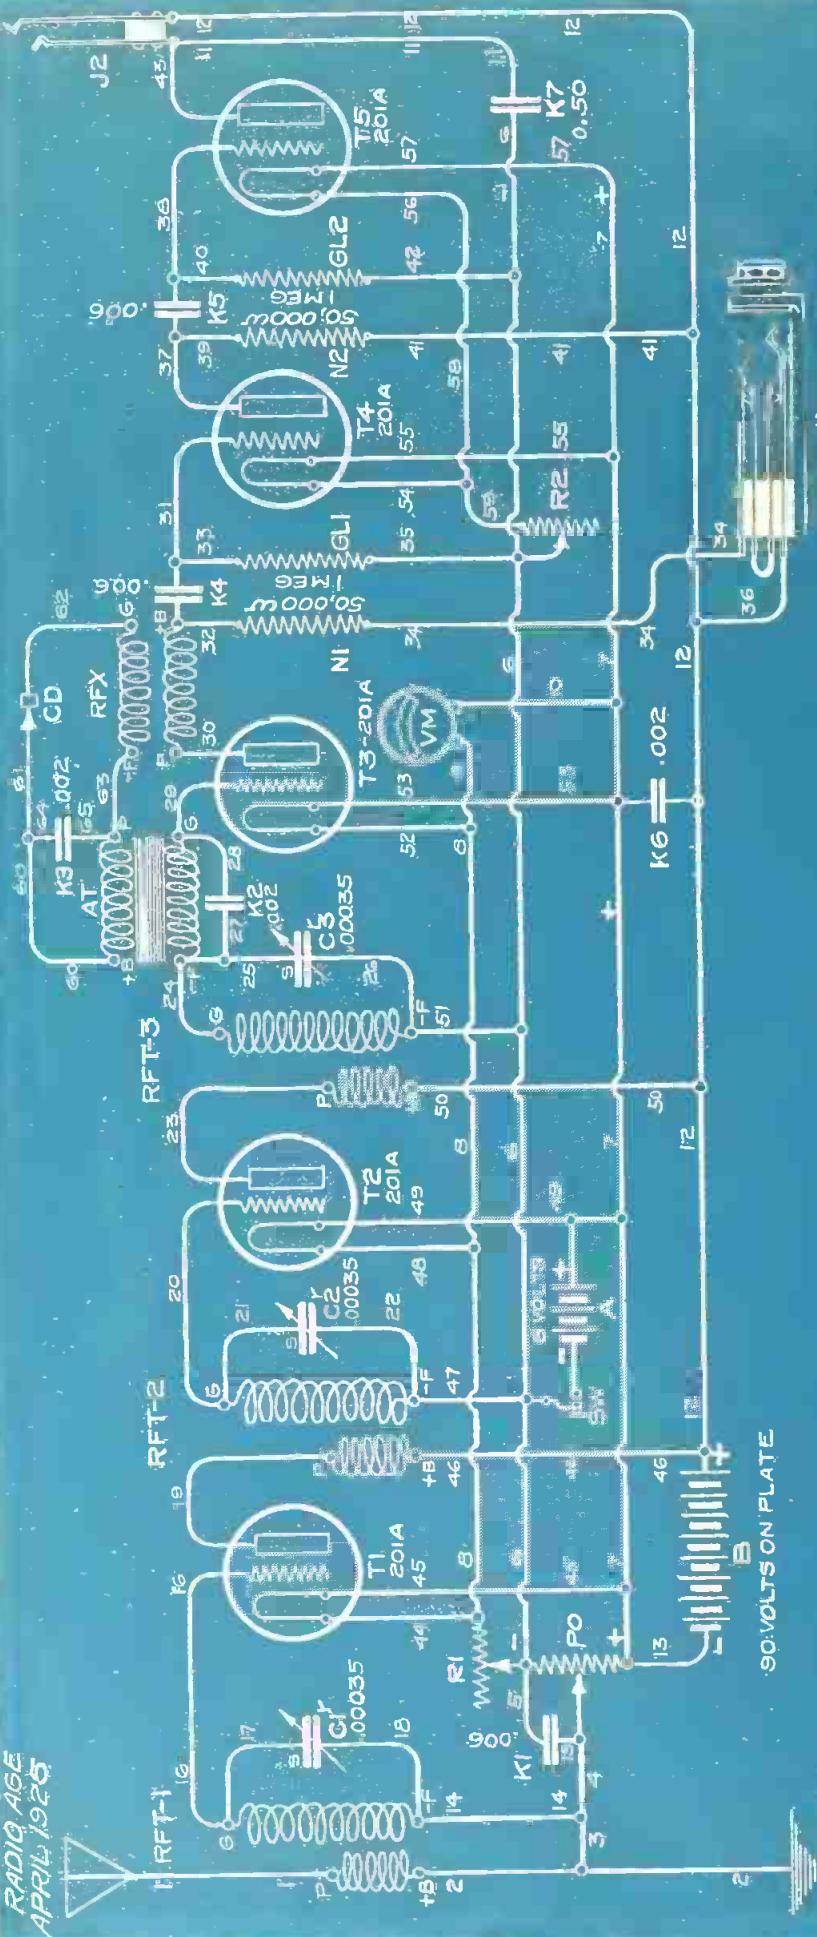
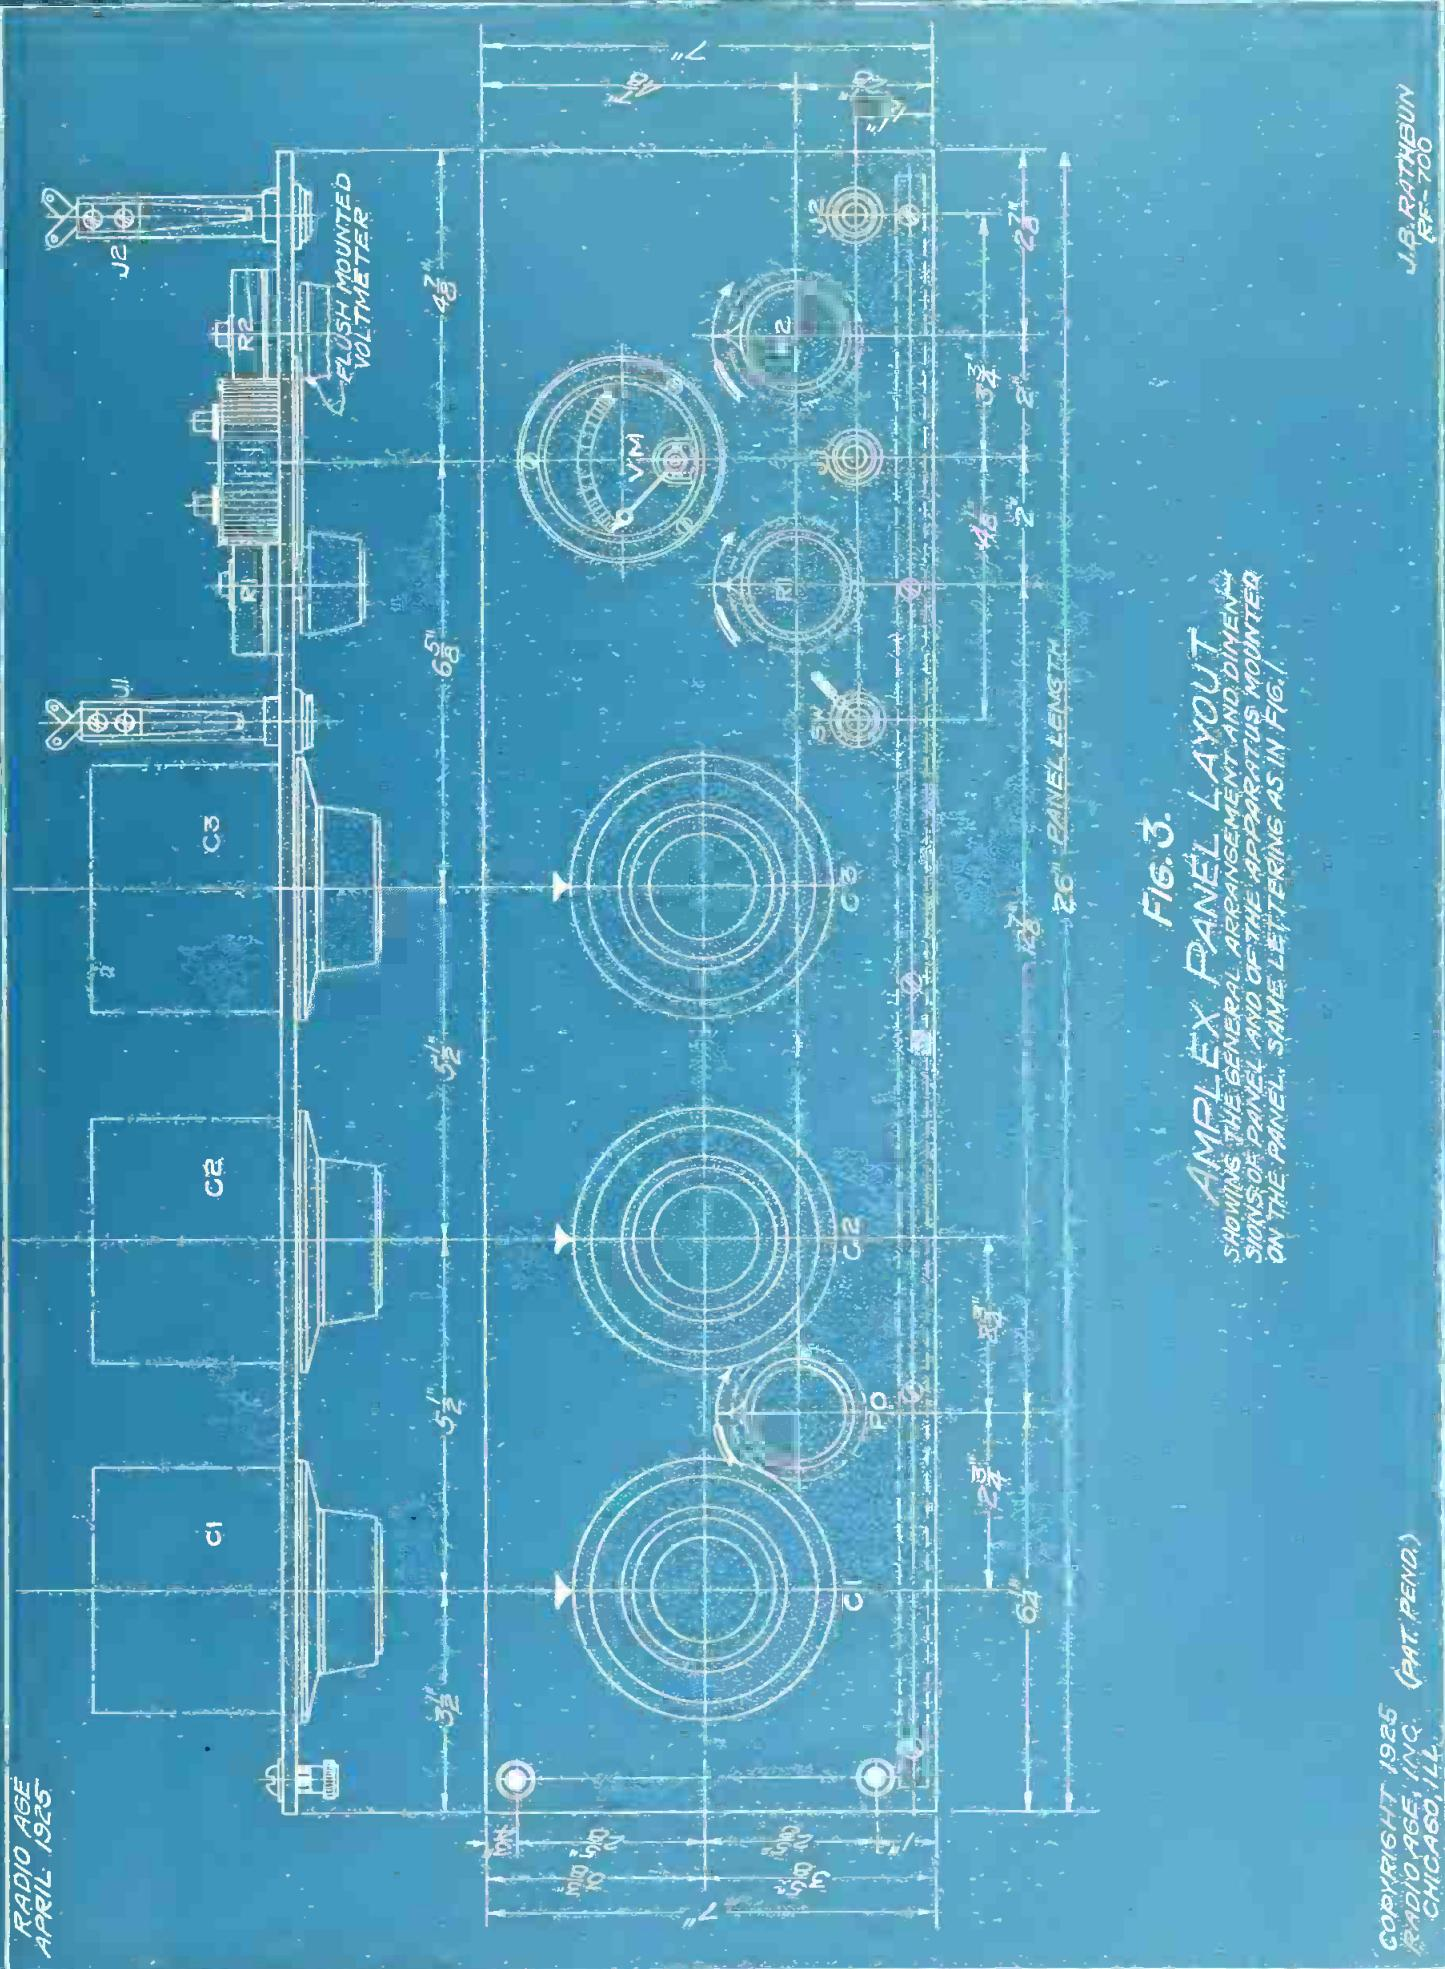

FIG. 1
FIG. 3.
ON THE PANEL. SAME LETTERING AS IN FIG. 1.
**I**N FIG. 1 we have the layout shown by a schematic diagram and in Fig. 2 the same circuit is given in "picture" form, which not only shows the wiring in simplified form, but also suggests the arrangement of the apparatus behind the panel. Fig. 3 is the front elevation of the panel with the control dials and knobs located.
Looking at Fig. 1 or Fig. 2 we see the